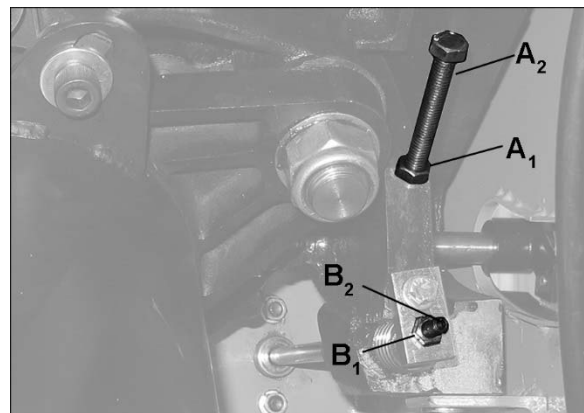

Figure 20
5. If adjustment is required, loosen nut (A₁, Figure 20) on 90° stop screw (A₂) with a 12mm wrench, and turn screw to proper height. Verify setting and retighten nut.